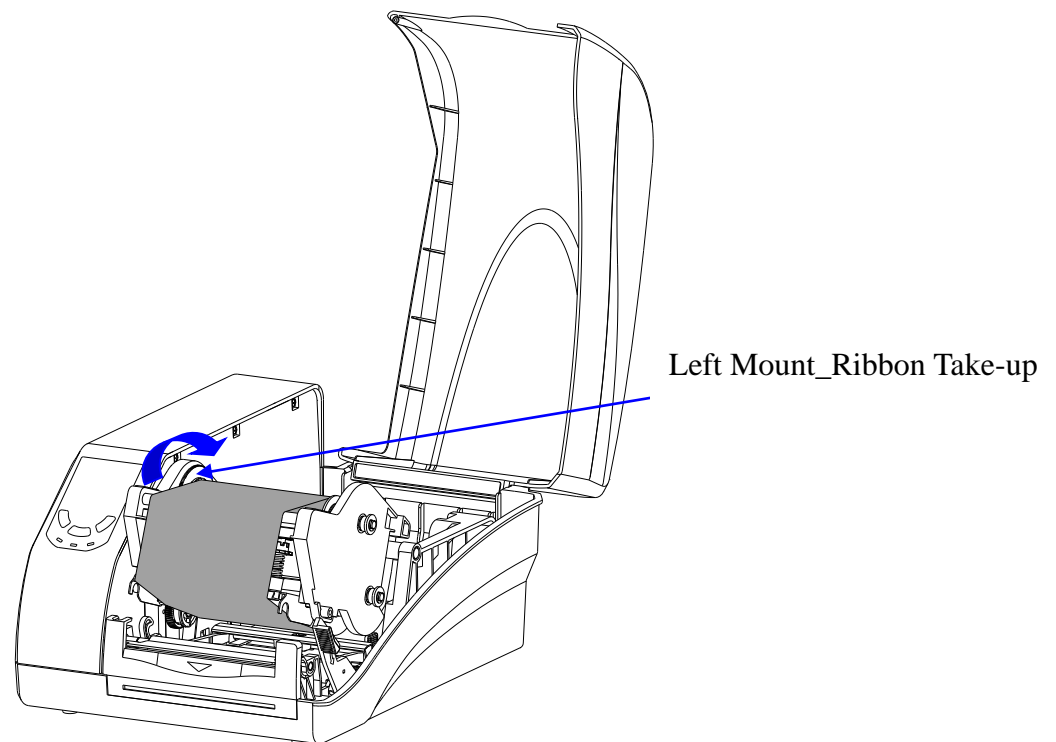

Figure 2-10 Ribbon Roll loaded
- 8. Turn the Left Mount of Ribbon Take-up to ensure the ribbon is tight and smooth, see Figure 2-10.